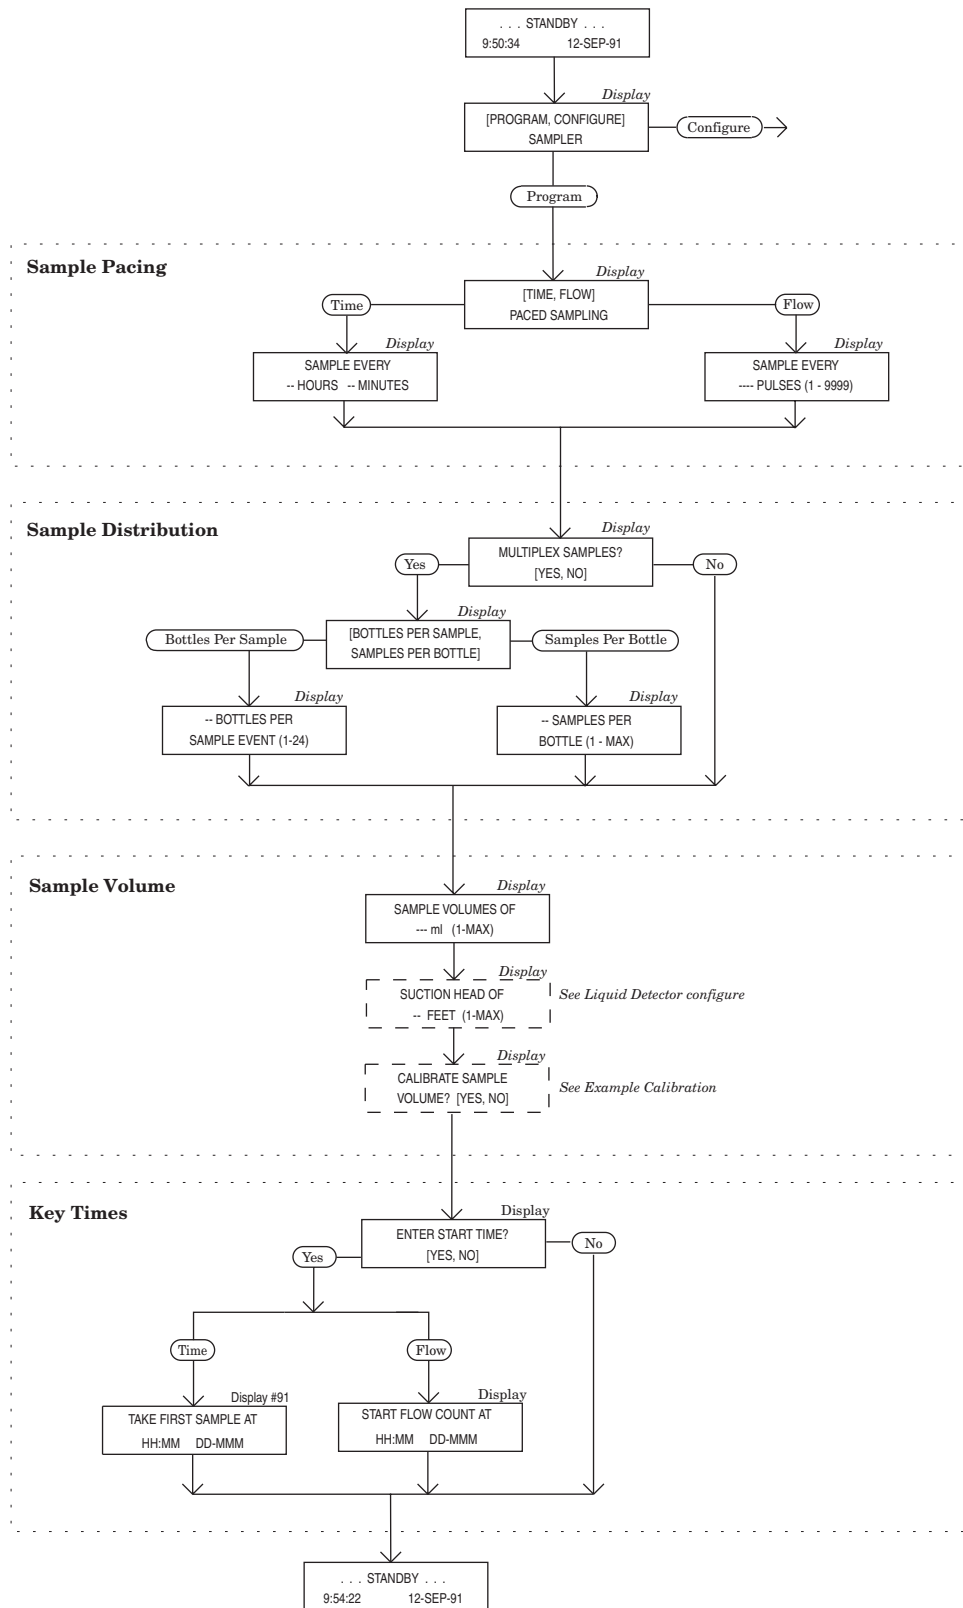

Figure 3-8 Basic Programming Mode: Program Sequence Structure
Flow charts accompany examples for both programming modes. These charts diagram the program sequence structure for each mode. Figure 3-8 charts the Basic Programming Mode structure. Figures 3-10, 3-11, and 3-12 chart the structure of the Extended Programming Mode. The charts are provided to act as a “map” to the programming process. Both charts are divided into sections — Sample Pacing, Sample Distribution, Sample Volume, and Key Times — which correspond to the steps listed in the procedure discussed below. Each chart contains the input displays used in the sequence. The input displays on each chart are labeled with their display number so they can be cross-referenced with the listing found in Appendix C.
2. Press the ENTER/PROGRAM key to access the interactive state. Select “program.” Refer to Figure 3-8 for displays noted in Steps 3 to 6.